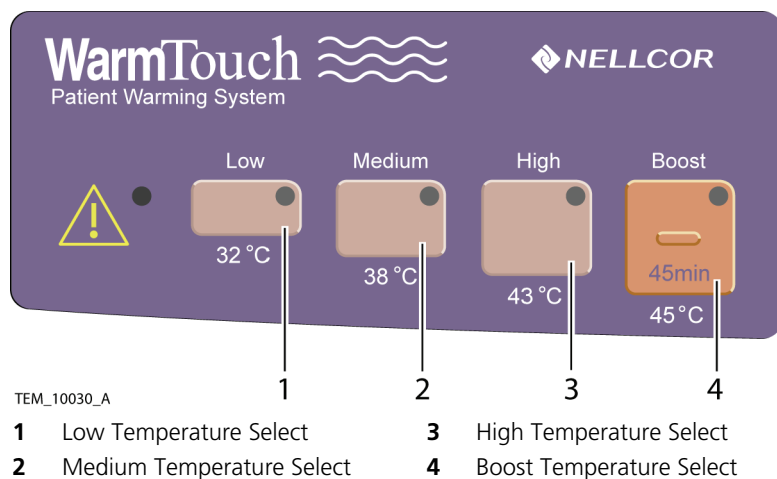

Figure 12. Temperature Selection
8. Select the Low temperature setting (Figure 12, item 1).
10. Select the Medium temperature setting (Figure 12, item 2).
12. Select the High temperature setting (Figure 12, item 3).
14. Select the Boost temperature setting (Figure 12, item 4).